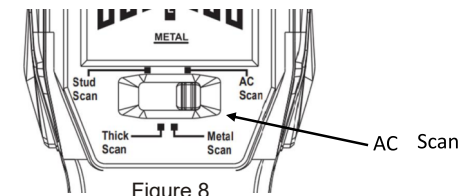

Figure 8
1) Select detecting mode, move the switch to AC Scan (Figure 8)